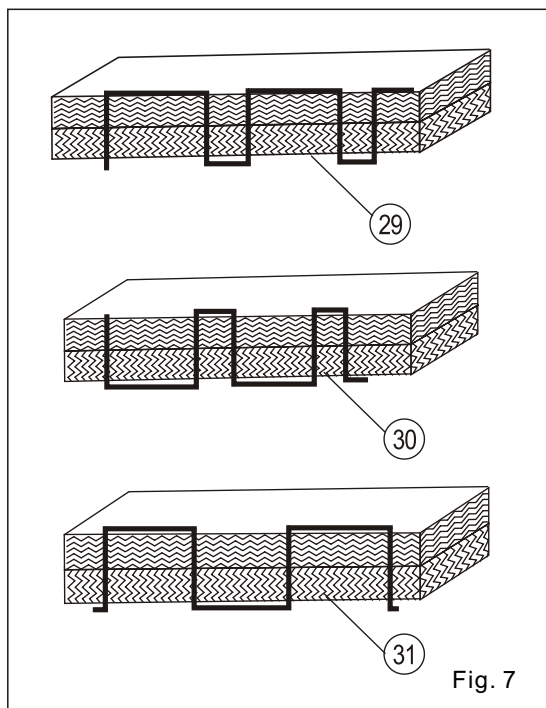

Fig. 7
E.g.: It may be seen that long needle (lower needle gauge) appears above the cloth and short needle (upper needle gauge) below the cloth, no. 29 in Fig. 7. Short needle (upper needle gauge) above the cloth, and long needle (lower needle gauge) below the cloth, no.30 in Fig. 7. In Fig. 7, the sizes of long and short needles, no. 31, are the same, which is a special sewing stitches (for leather).